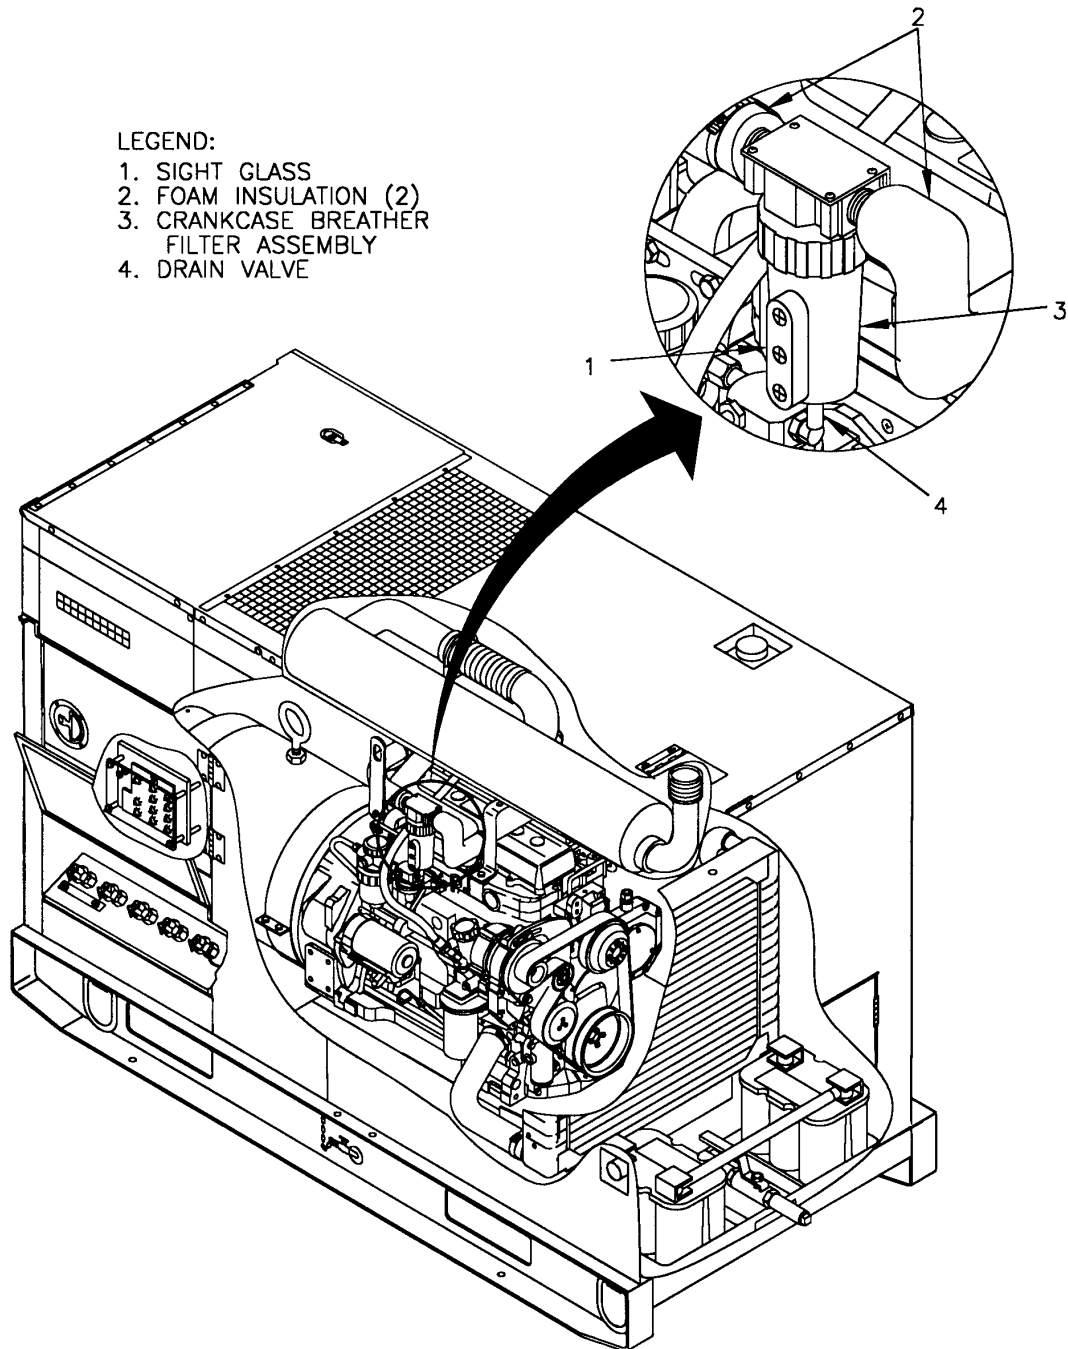

FIGURE 3-2 CRANKCASE BREATHER FILTER ASSEMBLY
- (3) Inspect sight glass (1, Figure 3-2). If fluid is visible, service crankcase breather filter assembly (3), step b below.
- (4) Inspect hoses (2) for cracks, holes, dry rot, and damaged or missing hose clamps.
- (5) Inspect crankcase breather filter assembly (3) for cracks, excessive corrosion, and other damage.
- (6) Close engine compartment access doors.
- (3) Position suitable container under crankcase breather filter assembly (3, Figure 3-2), loosen drain valve (4), and drain fluid into a suitable container. Tighten drain valve (4).
- (4) Close engine compartment access doors.